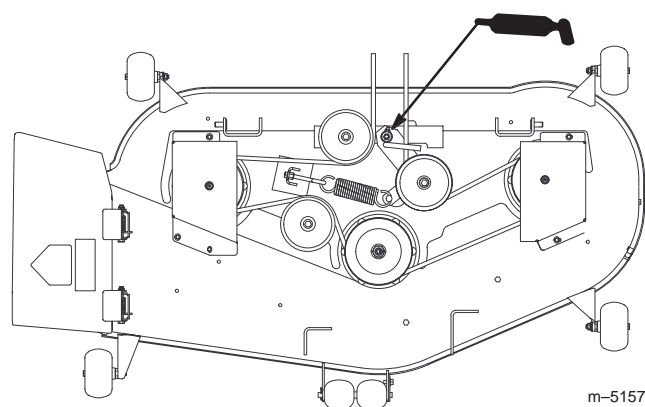

Figure 31
- Grease the idler pulley pivot (Fig. 31).